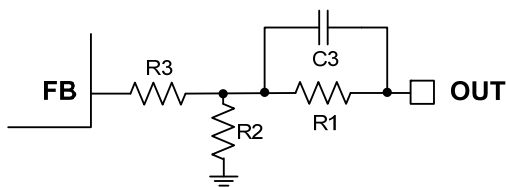

Figure 7: Feedback Network
The external resistor divider sets the output voltage (see Typical Application on page 1). The feedback resistor R1 also sets the feedback loop bandwidth with the internal compensation capacitor (see Figure 7). R2 is then given using Equation (2):